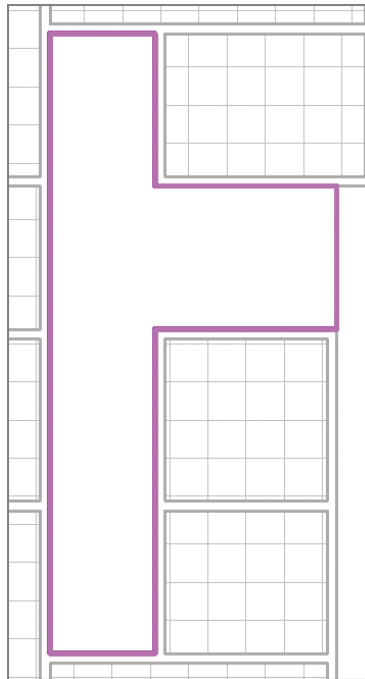

FIGURE 3.33 Creating a GWB
3. Create a GWB on Mtl. Stud Ceiling for the area shown in Figure 3.33.